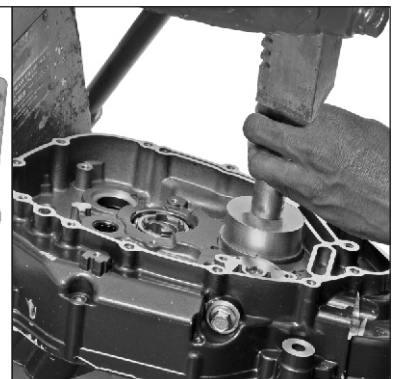

Fig. 1.20B
- Used to remove / assemble the bearings, oil seals and bushes. (Fig. 1.20B)